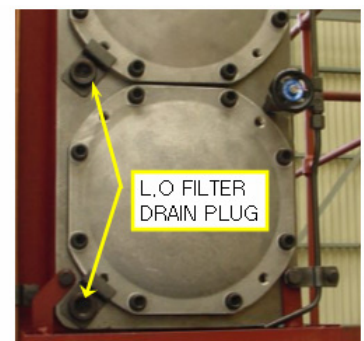

Fig. 3
4. Unscrew the drain plug slightly to drain lubricating oil. [Fig.3]